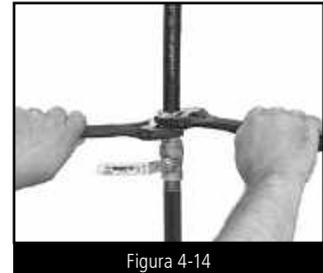

Figura 4-14
PASO 5 AJUSTE DEL ACOPLE (FIGURA 4-14)